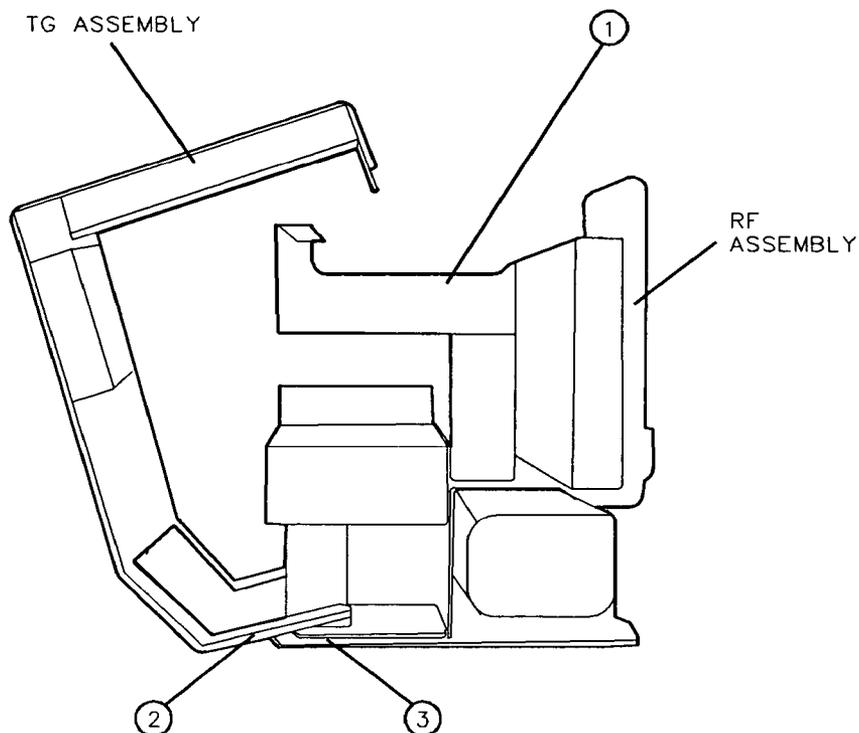

Figure 3-26. Joining the Tracking Generator and RF Assemblies
4. Place the analyzer's RF assembly next to the TG assembly as shown in Figure 3-26.
5. Locate two cables from the rear of the RF assembly and one cable (identified by yellow tape near its connector) from the rear of the TG assembly. Route these cables over the top brace (1) on the RF assembly. Location (2) on the TG assembly should rest on top of location (3) on the RF assembly.